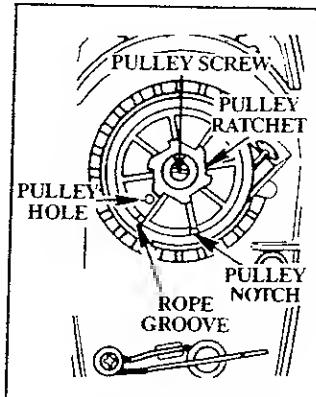

Figure 29
10. Remove screw from the starter pulley very carefully. Rotate the pulley clockwise  until no spring tension is felt and carefully lift the pulley out of the fan housing. Figure 29. Remove the old rope.
17. Carefully replace pulley in the housing. Be sure the pulley is all the way down. Replace washer and screw and tighten. Figure 29.